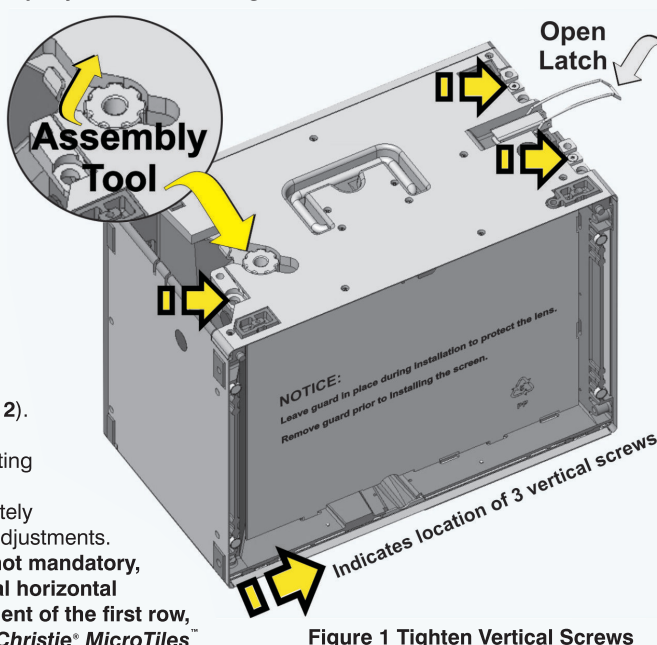

Figure 1 Tighten Vertical Screws
- Ensure the latches on the tiles are open before beginning (Figure 1).
- Using the assembly tool, hand-tighten the 3 vertical alignment rods (Figure 1) to secure the top tile to the tile on the bottom row. DO NOT completely tighten at this point to allow for adjustments.